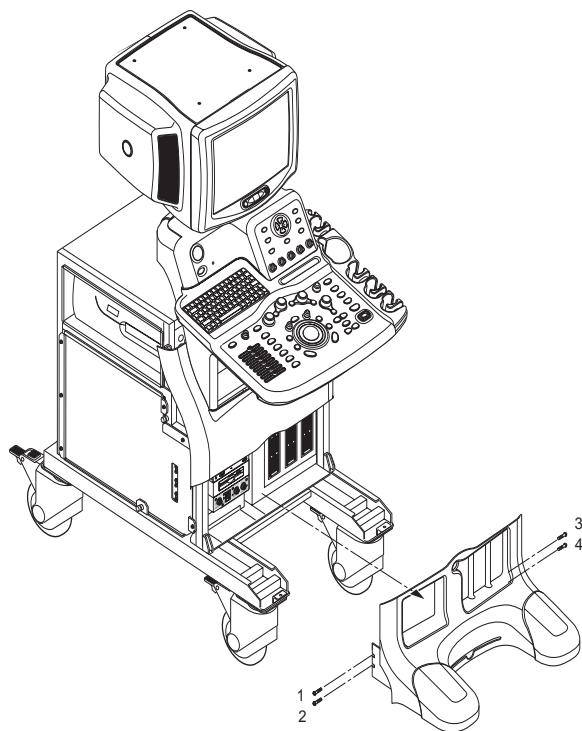

Figure 8-50 Removing the Front Base Cover
- 4.) Remove the Front Base Cover. Refer to Figure 8-50.